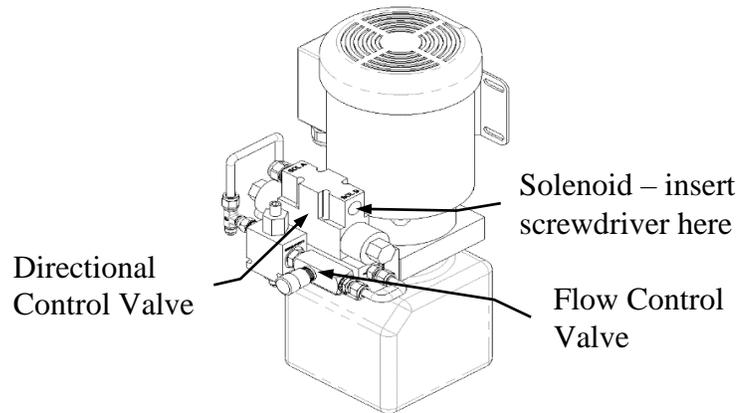

Figure 7- Directional Control Valve & Solenoid 775Hx Series (6130 HPU)
- 3.5.5. Locate the directional control valve on the pump. Insert a flat bladed screwdriver into the RIGHT side solenoid of the valve body and depress the solenoid. See **Figure 7- Directional Control Valve & Solenoid 775Hx Series (6130 HPU)**.